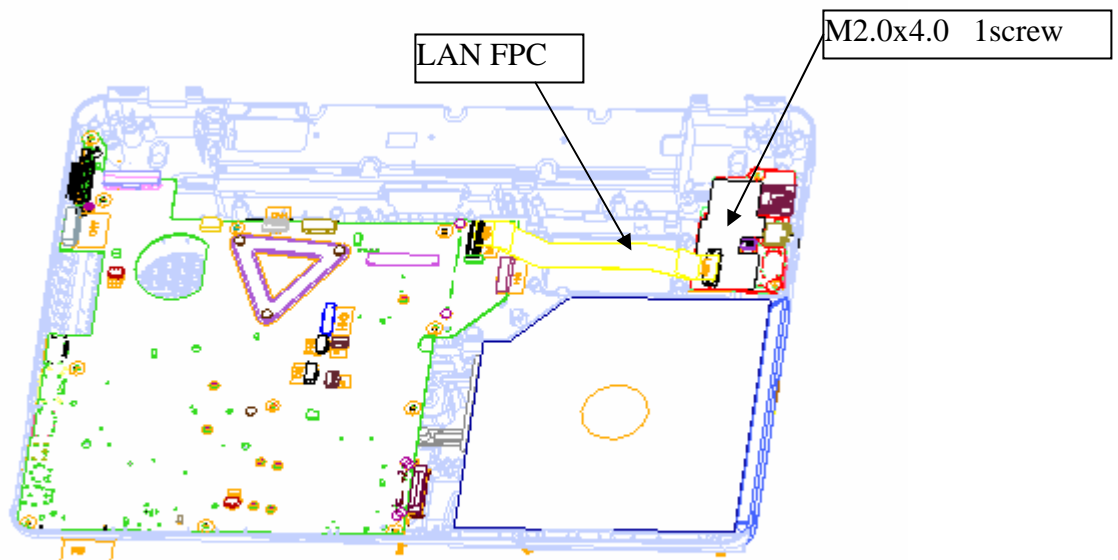

Figure 4-25 Remove the LAN board
1. Disconnect the Battery cable and DC cable from the system board (See Figure 4-25)